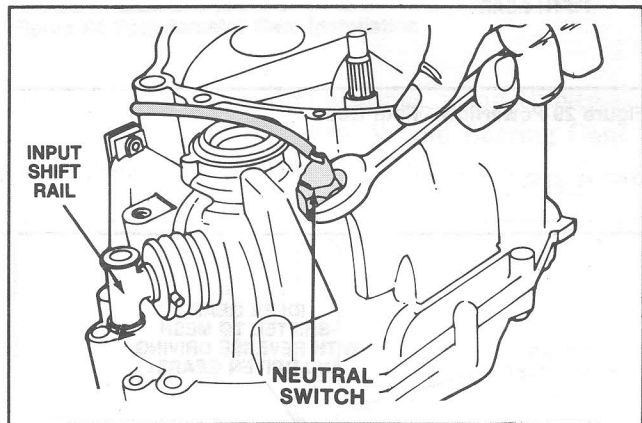

Figure 34 Neutral Switch Removal
6. Remove the transmission case to clutch housing attaching bolts. (Figure 34).